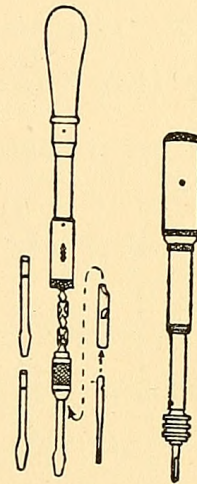

FIG. 27. Spiral-ratchet Screw-driver. FIG. 26. Auto-matic Drill.
**Spiral-ratchet Screw-driver** (Fig. 27). This may be set to drive or withdraw by moving a small *slide* to one end or the other of a slot on the side, or the spiral may be locked to make a ratchet screw-driver by giving the *milled* shell just below the slide a half turn. Three screw-drivers of different sizes are included with this tool, and a *chuck* to hold drills, together with eight sizes of drills, may be purchased for a small additional amount, which makes this tool serve the double purpose of drill and screw-driver. But the spiral-ratchet screw-driver may easily be dispensed with if you have an ordinary 6-inch